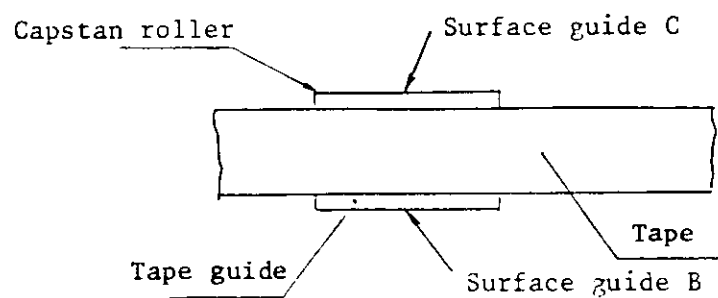

Figure L.10 Tape guides
- (1) Perform an auto load by mounting a tape and pressing LOAD/REWIND button on the MTU front panel. Remove the threading cover and lower channel.
- (2) Remove the front flange of lower tape guide ⑤ (see L0070) and re-install the tape guide.
- (3) Issue command \$01 then toggle the SSS switch using the field tester to rotate the tape in the forward direction. Adjust LH screw 3 so that the front edge of tape is just at the edge of the tape guide.
- (4) Issue command \$41 to rotate the tape in a reverse (backward) direction. Adjust the RH screw ② so that the front edge of tape is just at the edge of the tape guide.
- (5) Repeat steps (3) and (4) until the front and rear of the tape does not change positions when the tape motion is changed from forward to reverse, and back again.
- (6) After adjustment, rotate both the RH and LH adjusting screws clockwise. When the tape is in FWD or REW mode, the surface guides (B and C shown in Figure L.10) must be slightly visible.